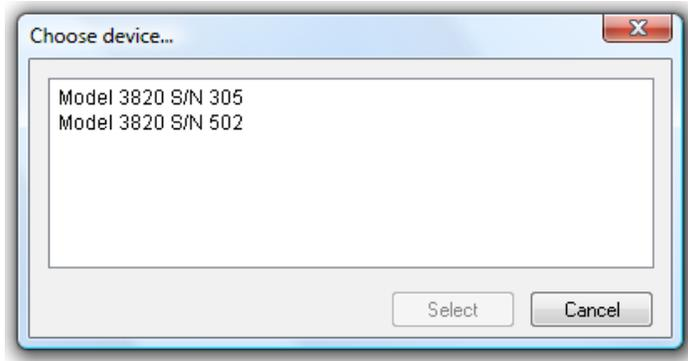

Figure 4-2, Device Picker Dialog
- bAskDlg** When this flag is True and there is more than one 3820 Universal Counter on the bus, a "device picker" dialog, shown below in figure 4-2, opens allowing the user to pick the Universal Counter with which communications will be established. Highlight the required unit and click on Select to choose it as the Universal Counter that is to be used.